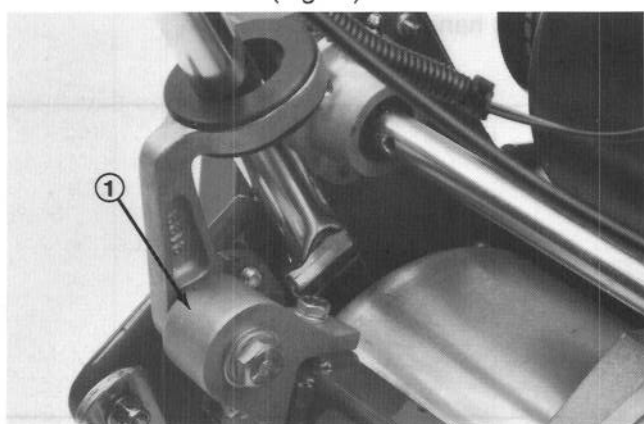

Figure 2
5. Insert handle arm bosses into socket arms on each side of mower (Fig. 2).
6. Loosely secure each handle arm to socket arm with a capscrew, lockwasher and flatwasher (Fig. 2). Pivot handle to desired operating height and tighten capscrew.